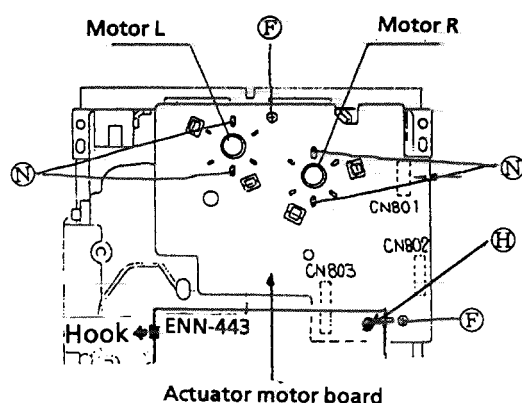

Fig. 2-13
1. Unsolder 4 soldered point ④ for both motors. (See Fig. 2-13.)
2. Remove a screw ① securing the CD servo board. (See Fig. 2-13.)
4. Remove 2 screws ② securing the actuator motor board. (See Fig. 2-13.)